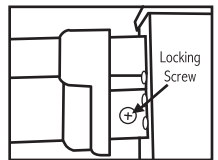

Figure 8
9. Before bracket covers are positioned over the metal brackets, a 3/4" pan head locking screw (provided) must be attached through the top rail into the metal bracket on each end of the top rail 1/2" from the end of the rail (Figure 8). The hole for these screws must be predrilled using a 11/64" drill bit. The locking screw should be placed close to the post so that the bracket cover will conceal the locking screw.